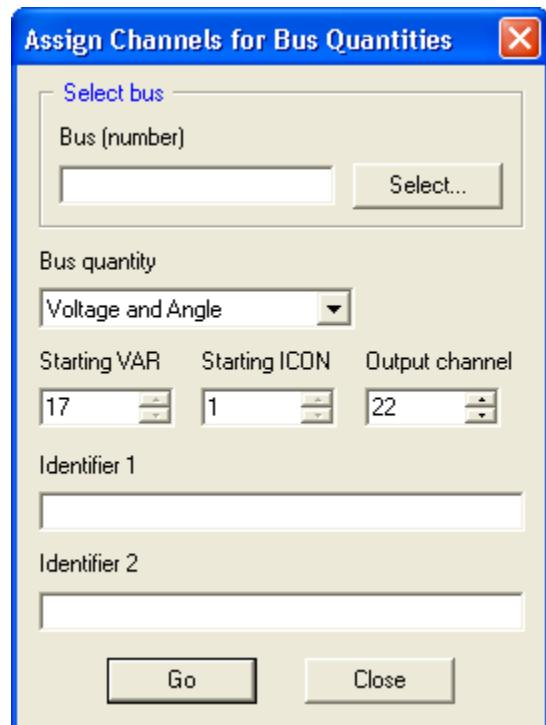
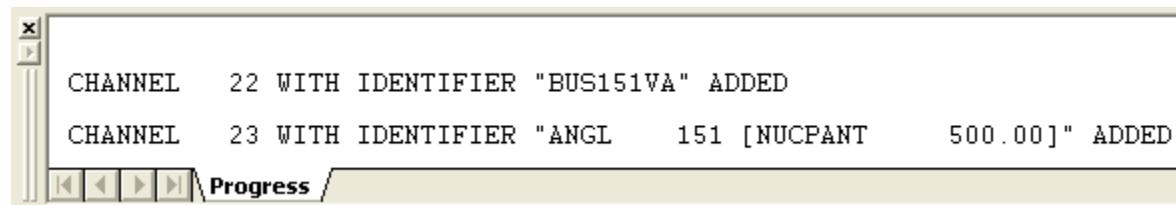
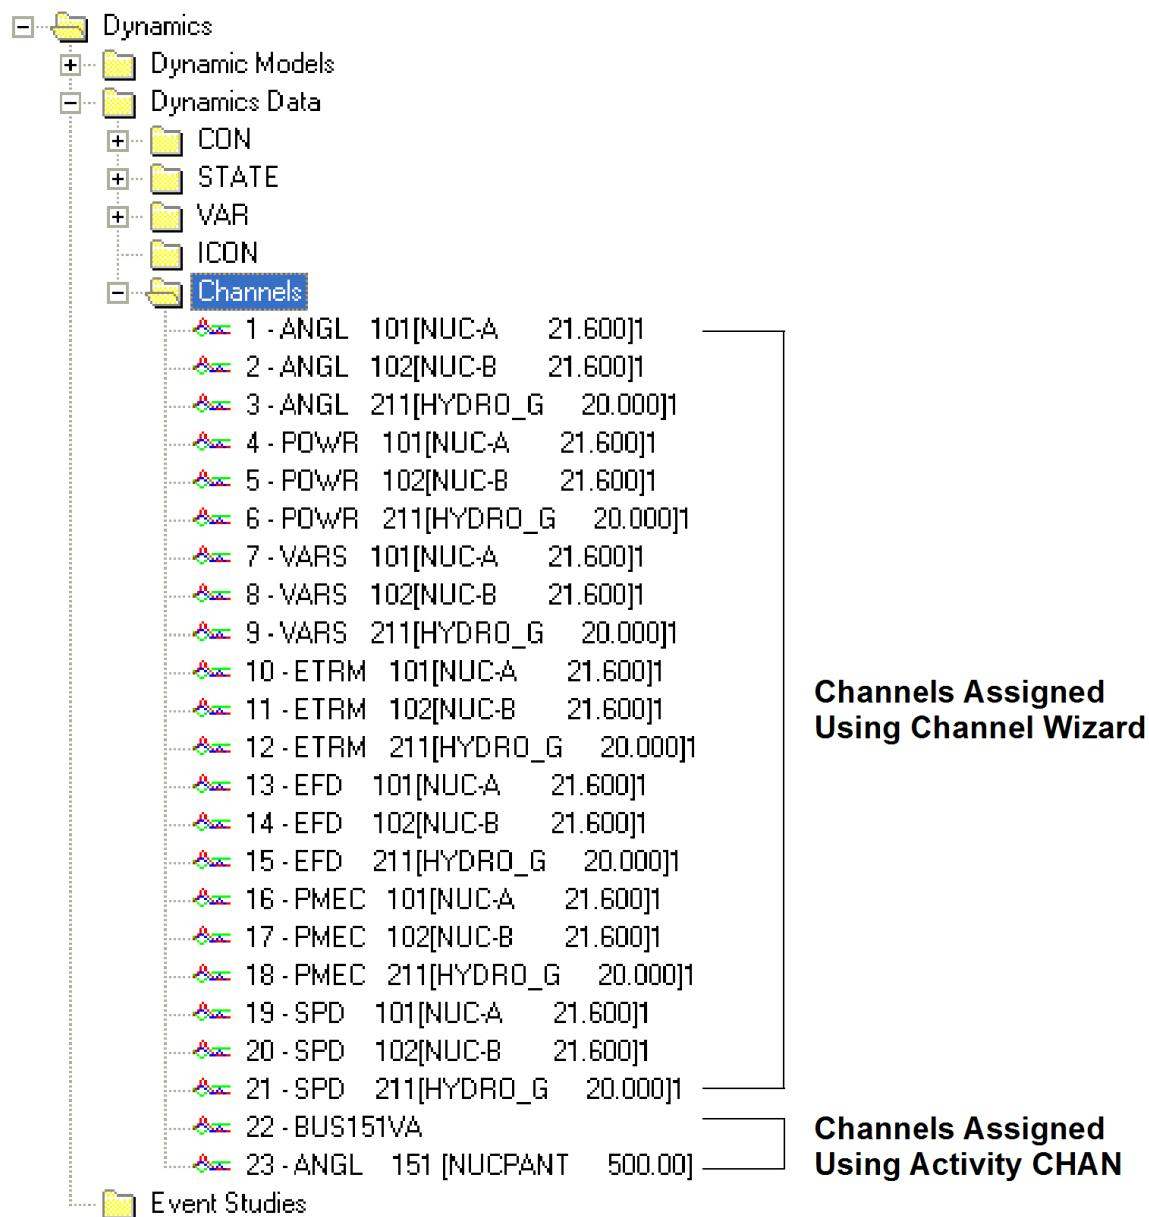

Figure 20.6. Assign Channels for Bus Quantities Dialog
Figure 20.7. Example of Bus Channel Assignment Output
Figure 20.8. Channel Output Assignments in Tree View
The [Assign Channels for Bus Quantities] dialog (Figure 20.6, "Assign Channels for Bus Quantities Dialog") provides channel assignment for individual bus quantities of Frequency, Voltage, or Voltage and angle. The user creates channel identifier(s) for specific simulations. Click [Select] to display [Bus Selection] where the desired bus may be specified. Click [Go] to assign the channel output. A summary is routed to the Progress tab (Figure 20.7, "Example of Bus Channel Assignment Output"). [Dynamics Tree] displays an index of the channels as they are built (Figure 20.8, "Channel Output Assignments in Tree View").
The [Assign Channels for Line Quantities] dialog (Figure 20.9, "Assign Channels for Line Quantities Dialog") provides channel assignment for individual line quantities of *Flow (P)*, *Flow (PQ)*, *Flow (MVA)*, or *Relay2 (R&X)*. The user creates channel identifier(s) for specific simulations. Click [Select] to display [Branch Selection] where the desired buses may be specified. Click [Go] to assign the channel output. A summary is routed to the Progress tab. [Dynamics Tree] displays an index of the channels as they are built (Figure 20.8, "Channel Output Assignments in Tree View").
The [Assign Channels for Load Quantities] dialog (Figure 20.10, "Assign Channels for Load Quantities Dialog") provides channel assignment for individual load quantities of *Pload* or *Qload*. The user creates channel identifier(s) for specific simulations. Click [Select] to display [Load Selection] where the from bus and load may be specified. Click [Go] to assign the channel output. A summary is routed to the Progress tab. [Dynamics Tree] displays an index of the channels as they are built (Figure 20.8, "Channel Output Assignments in Tree View").
Click [Go] to assign the channel output. A summary is routed to the *Progress* tab. [*Dynamics Tree*] displays an index of the channels as they are built (Figure 20.8, "Channel Output Assignments in Tree View").
The user creates channel identifier(s) for specific simulations. Click [Go] to assign the channel output. A summary is routed to the Progress tab. [Dynamics Tree] displays an index of the channels as they are built (Figure 20.8, "Channel Output Assignments in Tree View").